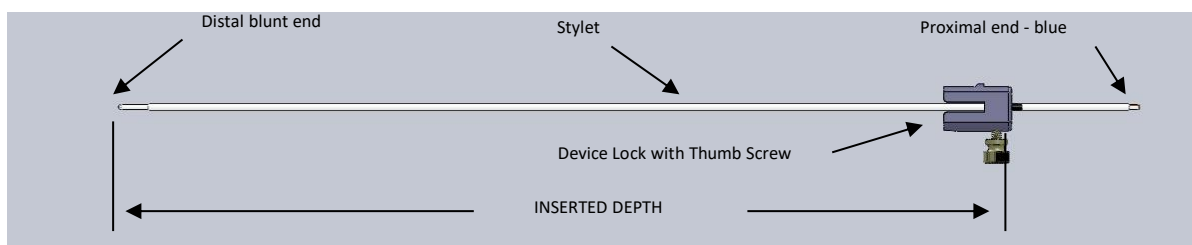
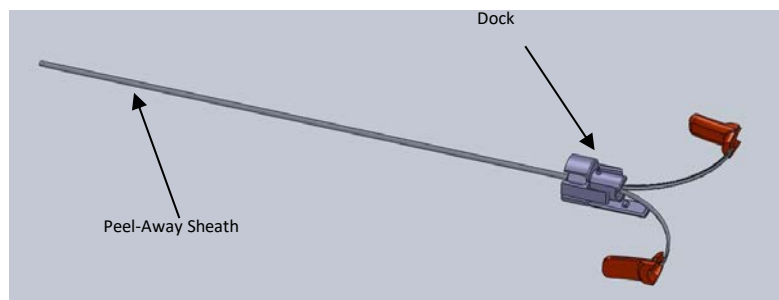

Figure 16: Stylet and Device Lock
Figure 18: Dock and Peel-Away Sheath
1. Remove the Dock (See Figure 18) and Device Lock (see Figure 16) from the SMARTFrame package.
4. Position the Device Lock on the depth mark on the Stylet and tighten the thumb screw. The inserted depth of the Stylet is defined by the proximal side face of the Device Lock to the distal tip of the Stylet. Confirm the length using the Ruler. See Figure 16.
14. Remove a new Peel Away Sheath from the Accessory Kit and separate the hub and peel away approximately one (1) inch of the Sheath. Place the Peel-Away Sheath through the Dock.
15. Insert the peeled Sheath sides into the grooves of the Dock. **See Figure 18.**
5. Set the inserted depth on the device from the distal end of the device to the top of the Device Lock using the Ruler. Lock the device to the Device Lock with the thumb screw. Verify the measured inserted depth. Alternately, the bottom of the Depth Stop can be located at the appropriate position and locked into place on the device with the thumb screw prior to inserting the device into the Device Lock. **See Figures 16 and 17 for similar placement of the Depth Stop or Device Lock onto Stylet.**